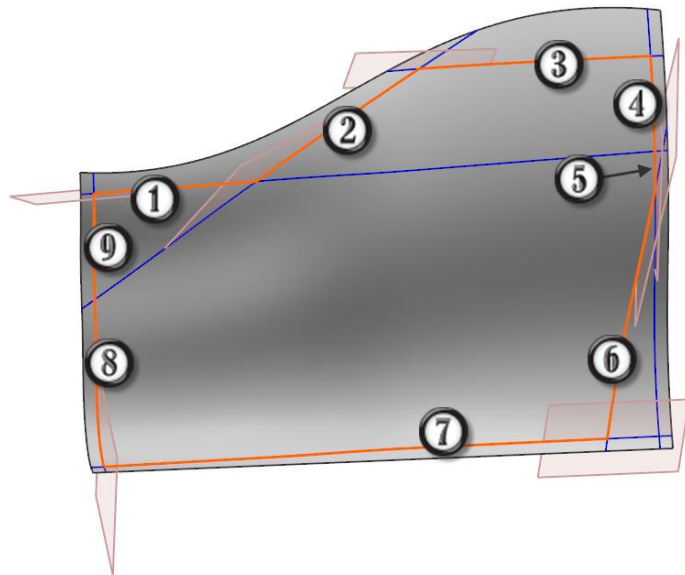

Figure 2–24
9. Under *Settings*, select **Hide Original** option and **General** for *Joint Curves*. as shown in Figure 2–25.